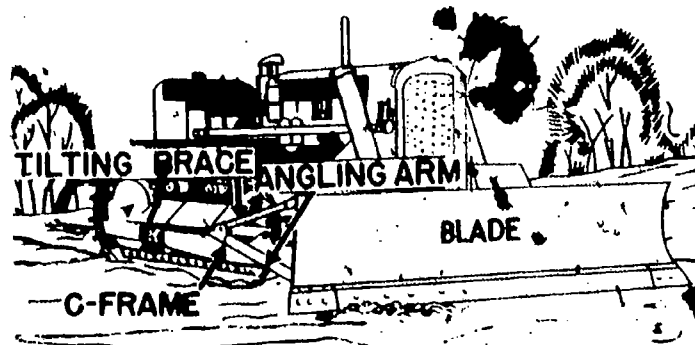

Fig 4-17. Parts of angledozer.
- (2) **Angledozer.** The angledozer (sometimes called a bullgrader) can be both angled and tilted (figs 4-17 through 4-19). The blade is designed so that it can be angled approximately 30° to the right or left for sidecasting. The blade may also be tilted up to 12 inches. The angledozer is the best piece of equipment for pioneering roads and for constructing sidehill roads. Angledozer work should be planned so the operator does not have to stop frequently to adjust the position of the blade.